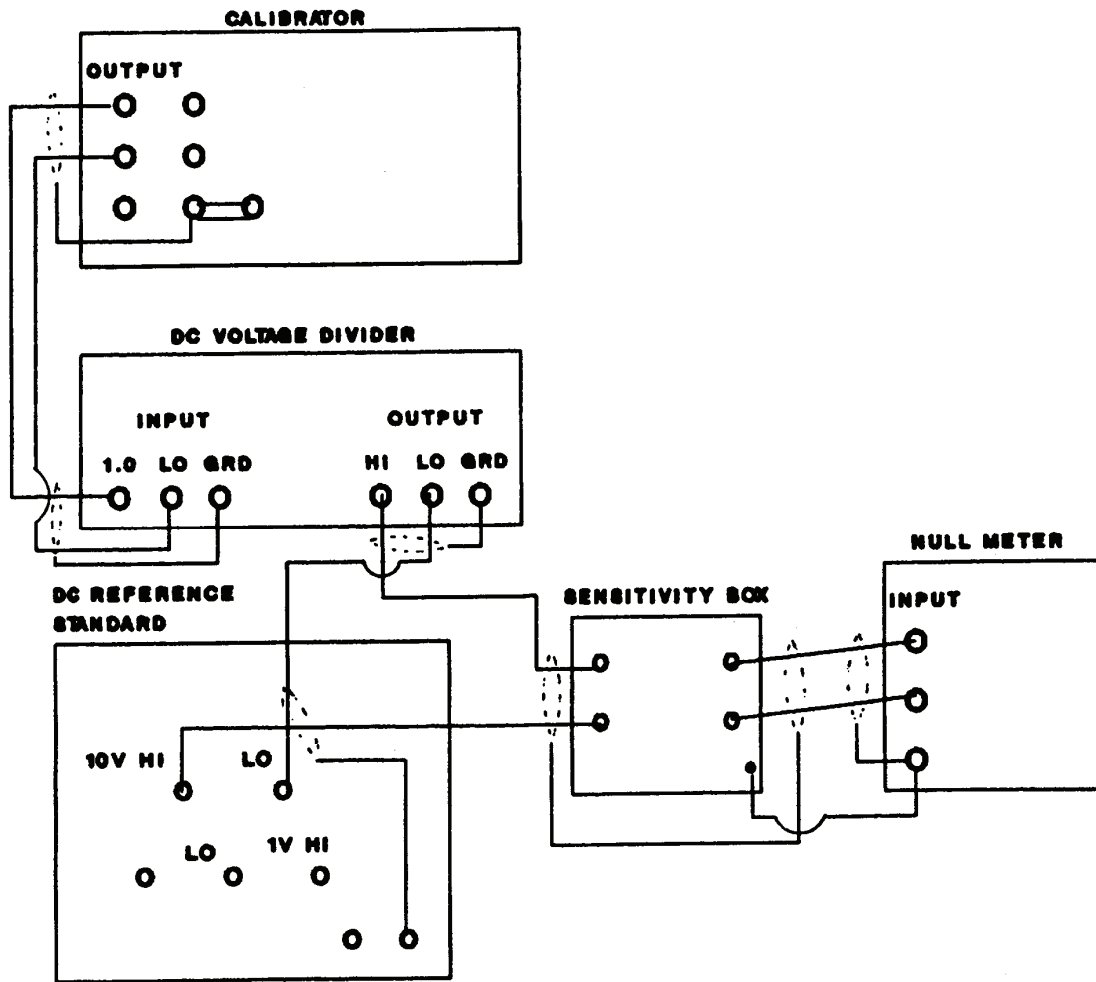

Figure 2. 10-volts dc accuracy - equipment setup.
(6) Disconnect short from TI.
(7) Connect equipment as shown in figure 2. Ensure calibrator **EX SNS** and **EX GRD** are off and sensitivity box L and H switches are open.